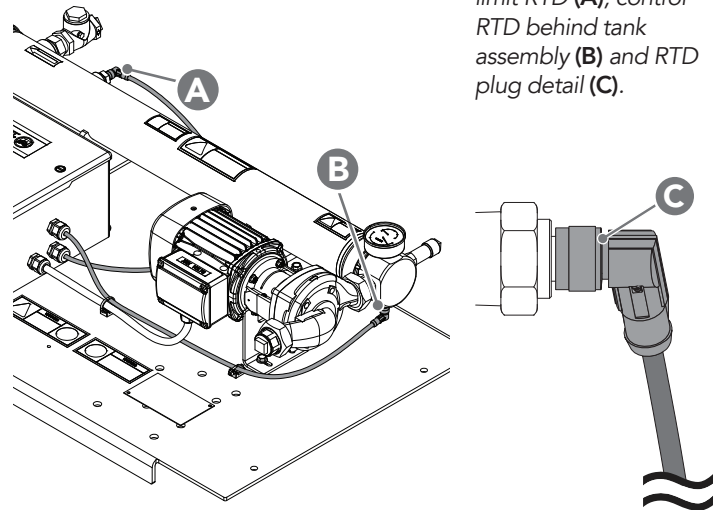
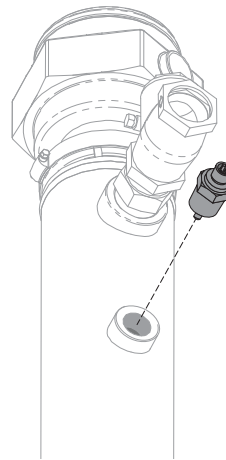

Figure 10. CLP high-limit RTD (A), control RTD behind tank assembly (B) and RTD plug detail (C).
Figure 11. High-limit RTD plug shown removed from CLP heating tank.
- If there **is no continuity** between TCR terminals **T2** and **T3**, locate connected RTD on the heating tank. Unscrew the RTD plug from RTD. See Table 1 and Figure 10, Figure 11 on the following page.
2. Close isolation valves. Drain fluid from the heating tank. Locate the RTD that requires replacement. See *Figure 10*.
3. Unscrew RTD plug. Remove plug. See *Figure 11*.
4. Unscrew RTD from tank. See *Figure 11*.